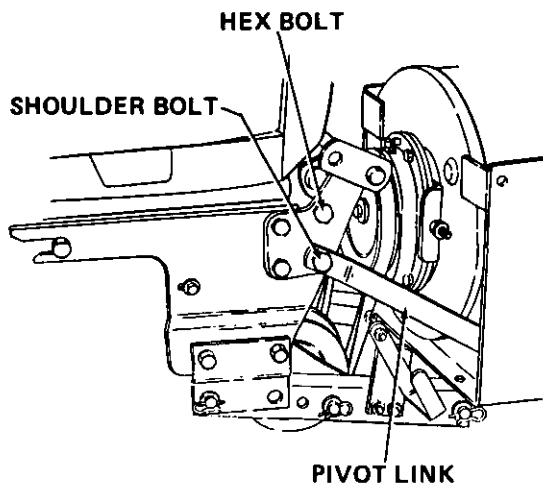

Figure 22
- c. Secure free end of each pivot link to remaining lower hole with shoulder bolt, lock washer and hex nut. Refer to Figure 22.